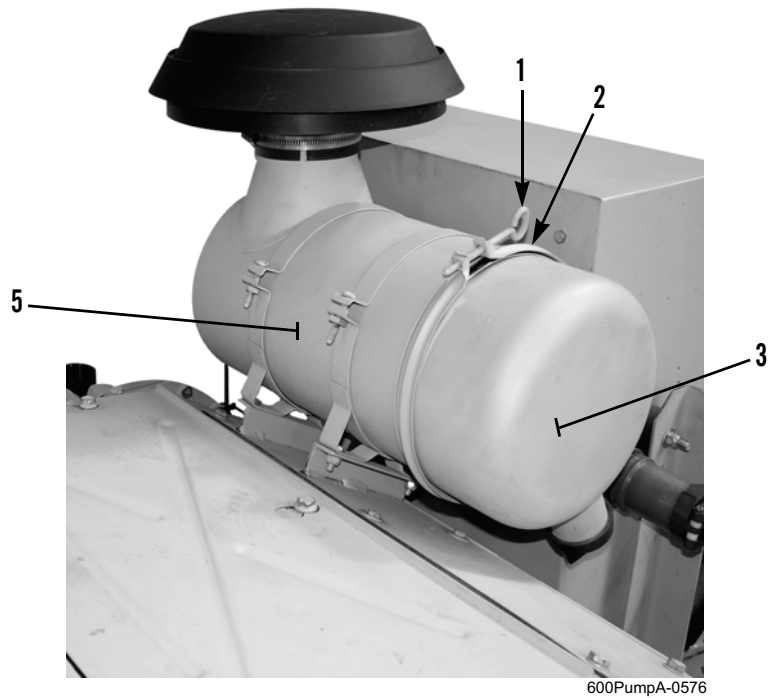

Figure 4. Air Cleaner Housing Assembly.
12. Install cover (Figure 4, Item 3) on air cleaner housing (Figure 4, Item 5). Tighten thumbscrew (Figure 4, Item 1) to secure clamp (Figure 4, Item 2).